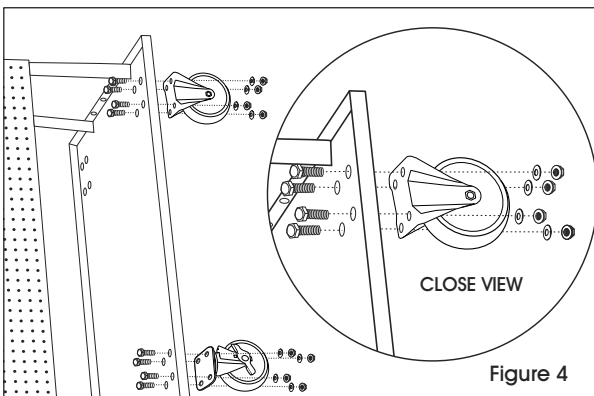

Figure 4
1. Lay pegboard cart on its side so the bottom of the deck is accessible. (See Figure 4)
2. Place one castor on the bottom of the deck. Align castor bolt holes with holes in the deck. (See Figure 4)
3. Insert four long bolts through the holes in the deck and the castor. In this order, slide one washer and one flange nut onto each bolt. Secure using 12 mm wrench, but do not tighten. (See Figure 4)